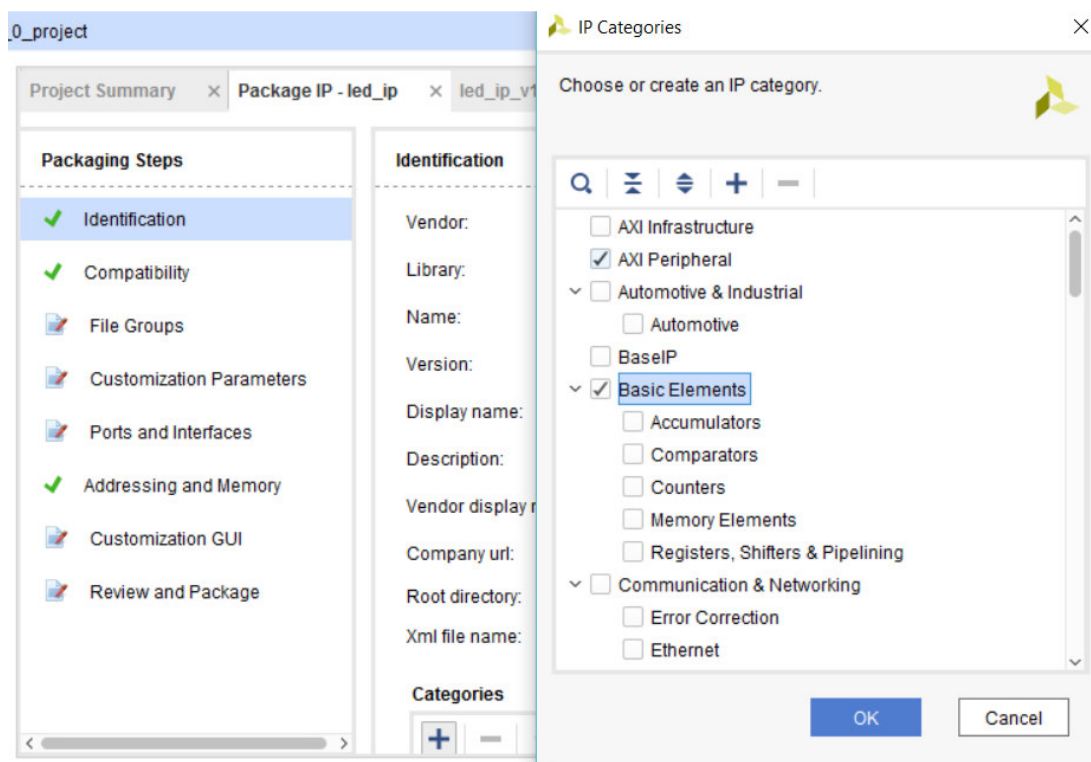

Figure 11: Setting the IP category
22. Select the **Package IP** tab in the **Project Manager** to view the **IP** packager. In this window, click on the + symbol on the bottom of the window to add the **IP** to a category. This will make the **IP** easier to find when trying to add it to a project later on. Make sure the **AXI Peripheral** and the **Basic Elements** boxes are checked and click **OK**. Refer to Figure 11 below.